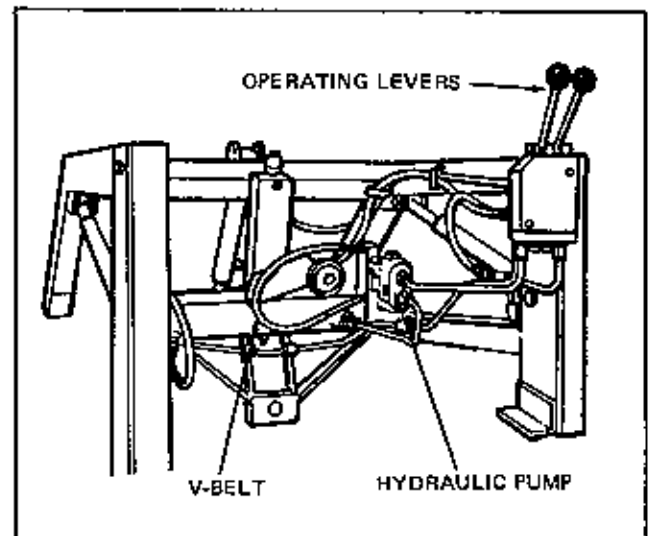

Figure 7.
9. Install V-Belt on hydraulic pump. See Figure 7.
10. Attach hydraulic control valve operating levers as shown in Figure 7 using the capscrew and locknut provided.